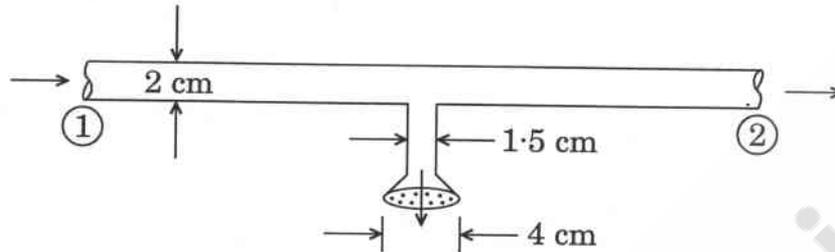

Figure 5(a)
- Q5.** (a) Water flows steadily through the piping junction, entering section ① at  $0.12 \text{ m}^3/\text{min}$ . The average velocity at the section ② is  $2.2 \text{ m/sec}$ . A portion of the flow is diverted through the showerhead, which contains 100 holes of  $1 \text{ mm}$  diameter. Assuming uniform shower flow, estimate the exit velocity from the showerhead jets. Take density of water =  $1000 \text{ kg/m}^3$ . (Please refer Figure 5(a))